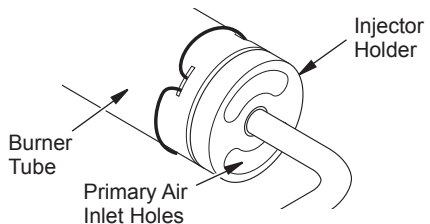

Figure 55 - Injector Holder On Outlet Burner Tube
2. Inspect burner, pilot, and primary air inlet holes on injector holder for dust and dirt (see Figure 55).